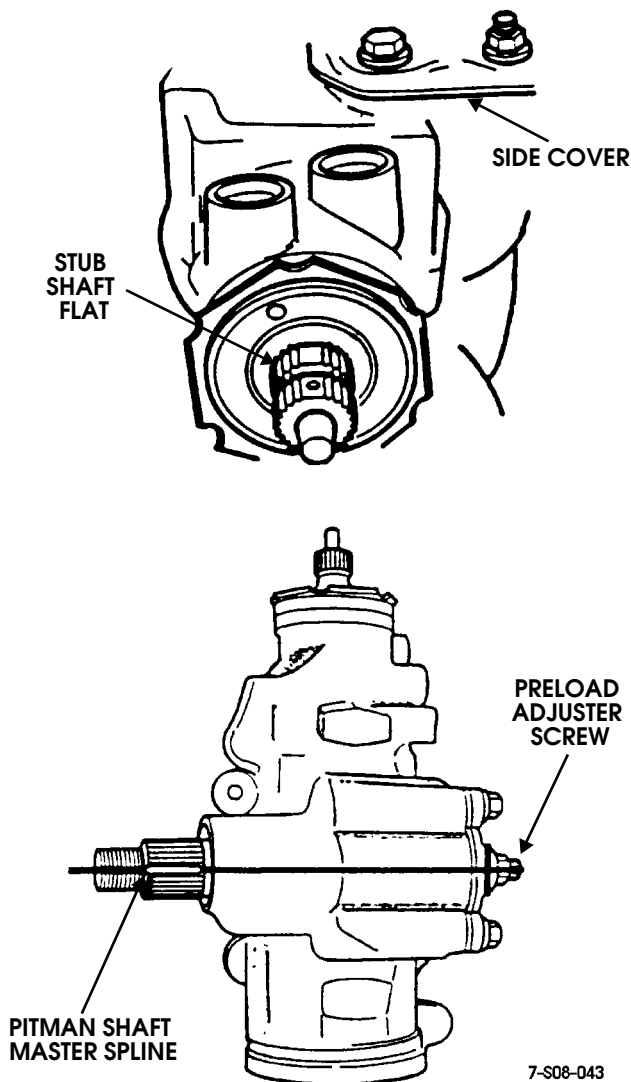

Figure 8-69: Verifying That Gear Is Centered
4. Verify that gear is centered. Flat on stub shaft should face upward and be parallel with side cover. In addition, master spline on pitman shaft should be parallel with adjuster screw (Figure 8-69). If gear is not centered, number of turns counted in step 3 may be incorrect, or pitman shaft sector teeth are not centered in rack piston. Make necessary corrections before proceeding.